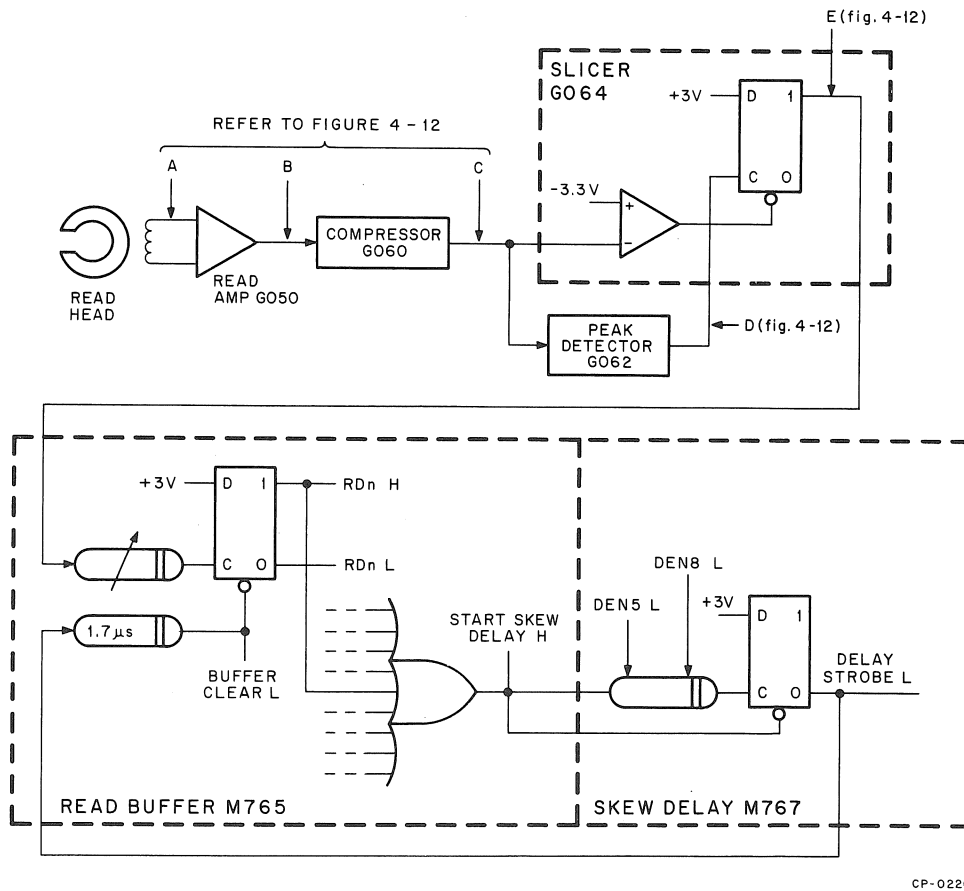
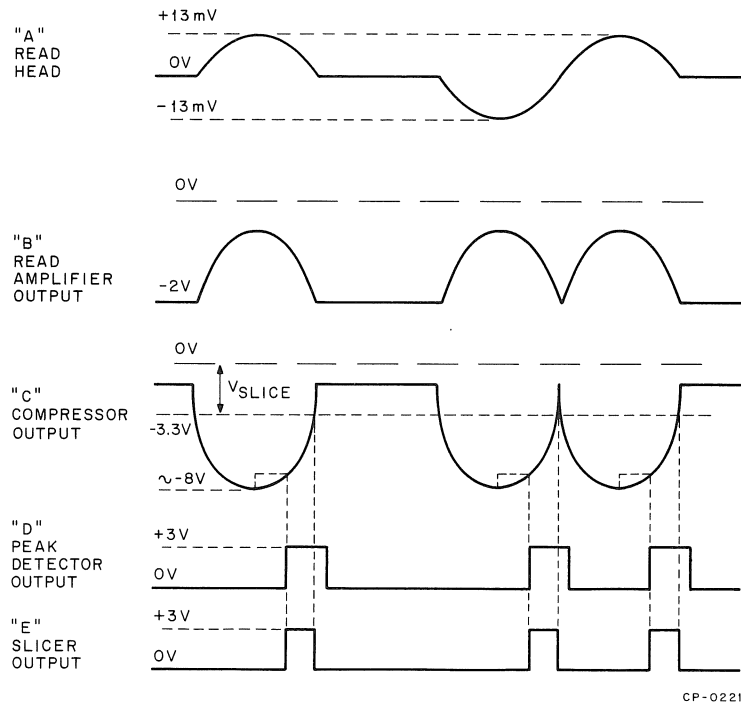

Figure 4-11 Equivalent Circuit of Read Timing and Read Circuitry for One Track (Units up to No. 10320)
Figure 4-12 Read Circuit Waveforms (Units up to No. 10320)
4.4.5.1 TU10 DECmagtape Transports up to No. 10320 – An equivalent circuit of one of the 9 (or 7) read channels is shown in Figure 4-11. Figure 4-12 shows possible read signal waveforms at the indicated points. For more complete and accurate representations, see drawings TU10-0-10 and TU10-0-08. Although for simplicity this discussion considers only one read channel, the user should remember that the read electronics includes either 9 or 7 identical, parallel read channels.
The output of the Compressor is routed to two circuits, the Peak Detector (G062) and the Slicer (G064). The Peak Detector is somewhat misnamed in that it does not actually detect the peak of the Compressor output waveform, but rather generates a positive-going logic level transition when the Compressor output swings approximately 1.4V more positive than its negative peak, on the trailing side of the Compressor output pulse (see Figure 4-12). This signal does, however, have a fixed phase relationship to the peak of the Compressor output independent of the magnitude of the Compressor output pulse due to the logarithmic transfer function of the Compressor.